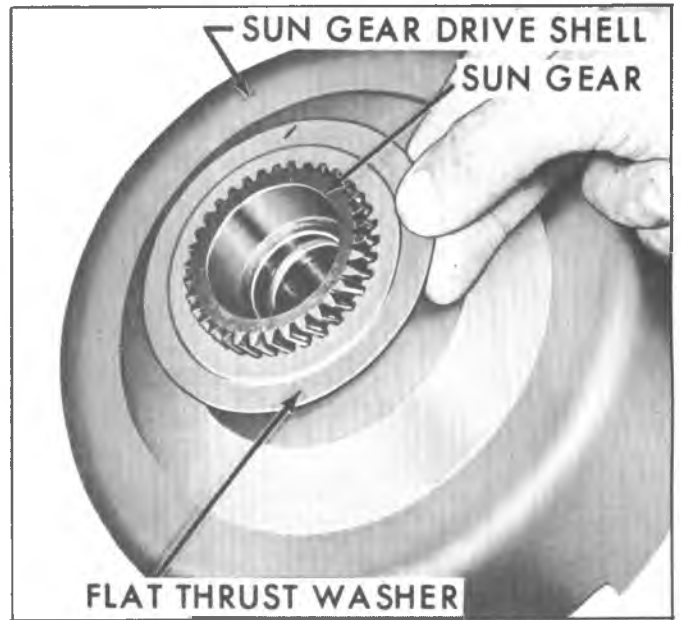

Fig. 81N--Removing Sun Gear to Drive Shell Rear Steel Thrust Washer
2. Remove sun gear to drive shell flat rear steel thrust washer (fig. 81N).